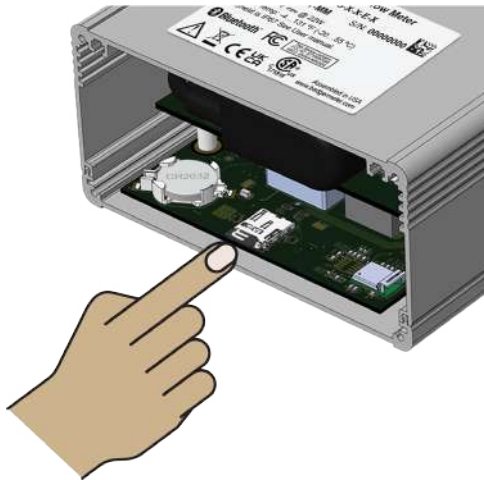

Figure 21: Remove the MicroSD card
- a. Remove the MicroSD card by pushing the protruding edge of the card until there is a clicking sound—ejecting the card from the tray. Refer to Figure 21 below.